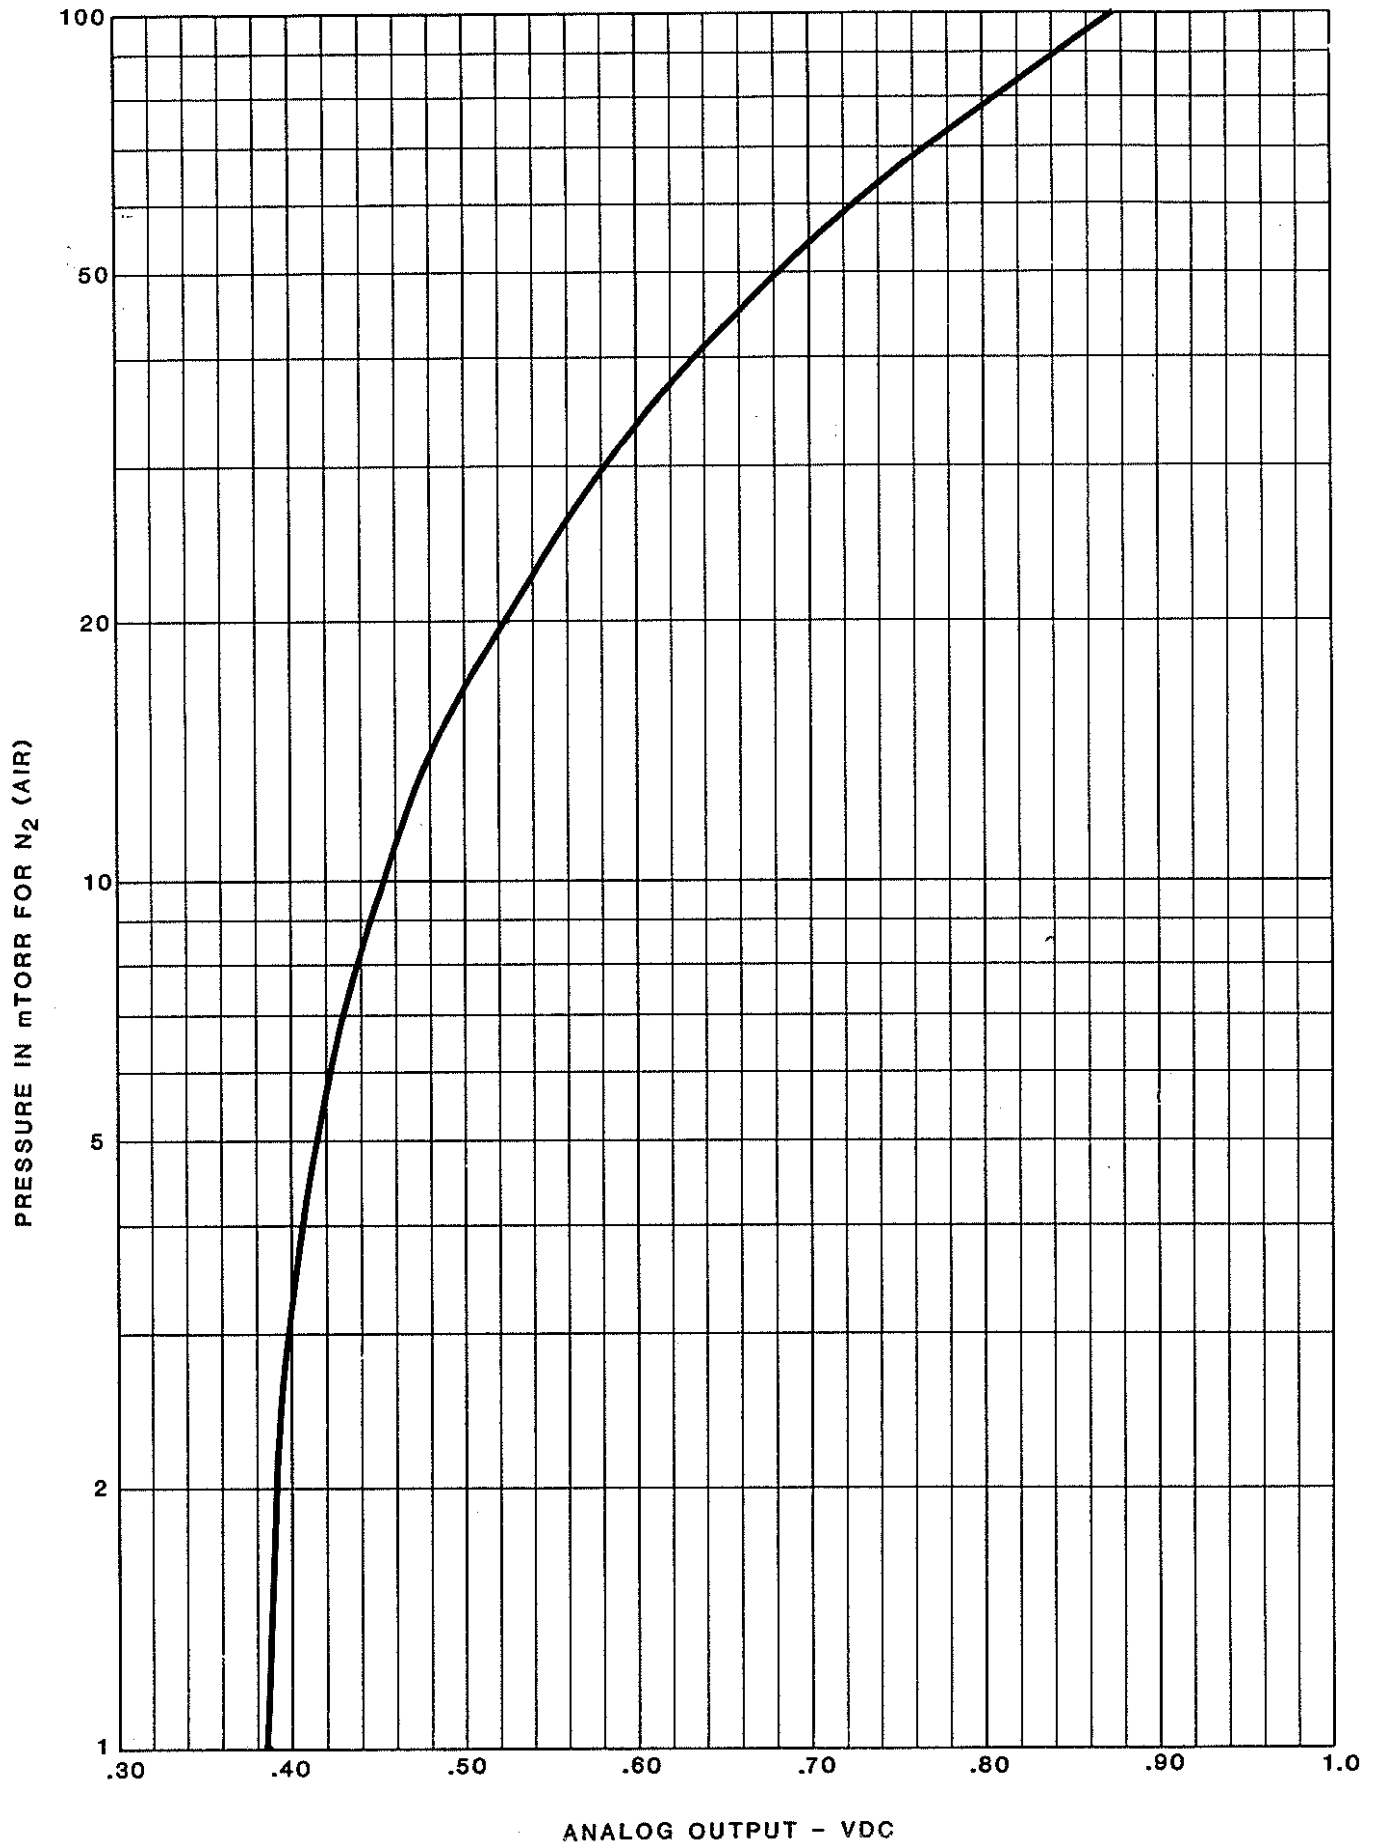

Fig 5-1 Output Voltage vs Indicated Pressure
- Step 1 - From the graphs of Figs 5-1 or 5-2, or the data from Fig. 5-3 determine the analog output voltage corresponding to the set point for the type of gas being used.
Figs. 5-1 and 5-2 show the relationship of true pressure for N₂ (air) - vs - analog output voltage. This graph was plotted using the data taken from Fig. 5-3 which is the analog output voltage versus true pressure for various gases. This data can be used in your application by performing a curve fit for the gas involved with your process. It can also be plotted out on the graphs of Figs. 5-1 and 5-2 if you desire to see how it compares with N₂ or air.